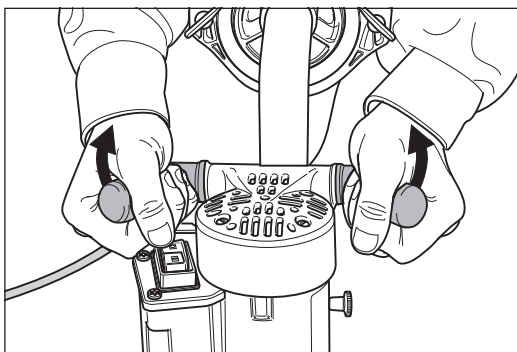

Fig. 9 Tilt the machine backwards slightly before starting and switching off the machine.
- **Always** tip the machine backwards slightly (fig. 9) before switching on the machine so that the sanding disc is raised off the floor!
- 1 Tip the machine backwards slightly (fig. 9)!
Always tip the machine backwards slightly (fig. 9) before switching off the machine so that the sanding disc is raised off the floor!
- 1 Tip the machine backwards slightly (fig. 9)!**